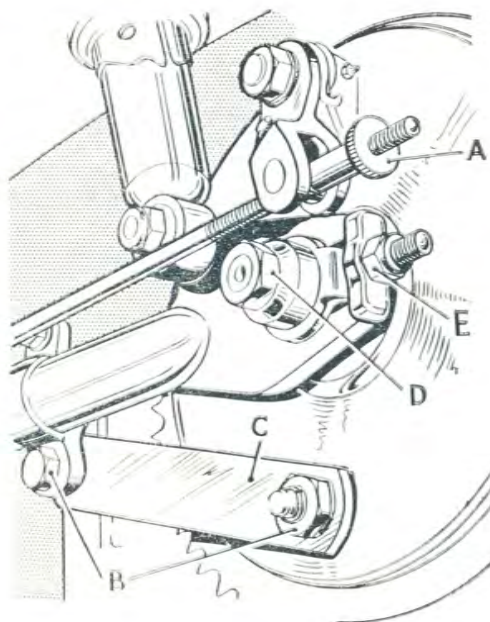

FIG. 20.
First slacken the nuts (B) Fig. 20, at both ends of the link (C) (Fig. 20) and then the brake rod adjuster (A). Loosen the spindle head on the right side of the machine by one or two turns, followed by a similar action to the spindle nut (D) on the left side.
Draw bolt chain adjusters are used at both ends of the spindle and their nuts (E) Fig. 20, must be tightened by the same amount on each side until the chain slackness conforms to the figure given above. Retighten the left spindle nut first and then the main spindle head on the right-hand side. Tighten the link nuts and then adjust the brake in accordance with the instructions on page 35.
The rear brake is adjusted by turning the self-locking sleeve (A) (Fig. 20), in a clockwise direction (viewed from the rear of the machine) to shorten the effective length of the brake rod, and open the shoes in the drum.